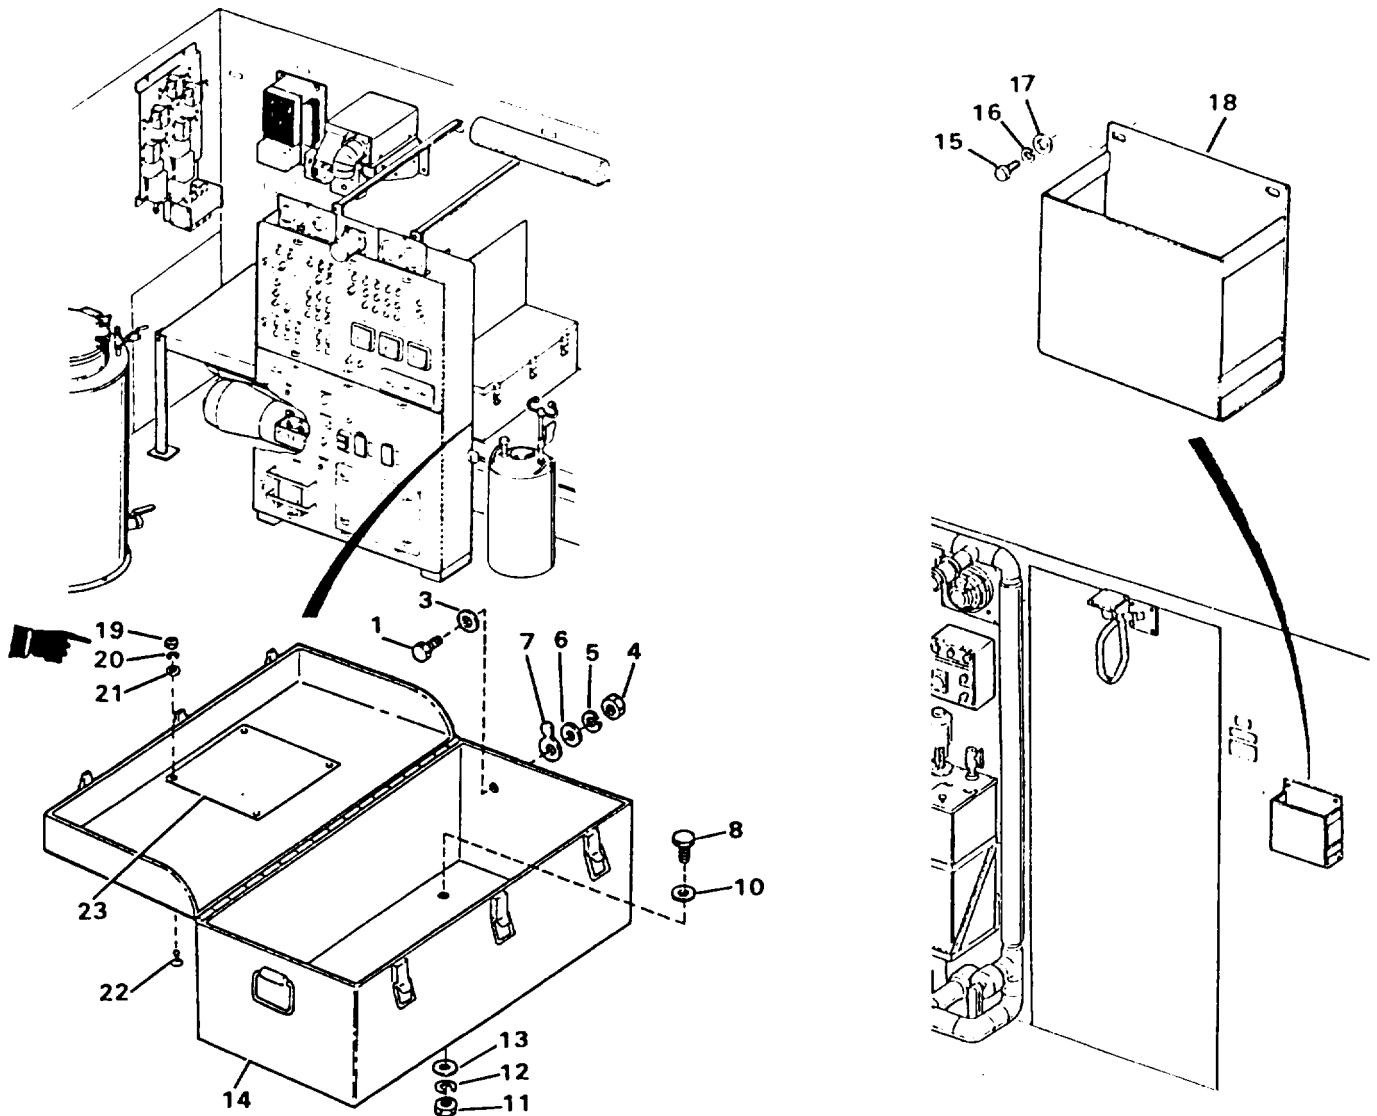

Figure 4-74. Storage Box and Rack
- a. Storage Box (Figure 4-74).
- (1) Open lid and prop open. Remove contents.
(2) Disconnect ground wire lug (7), which is attached to the accessory table by removing capscrew (1), (2) DELETED, washer (3), nut (4), lockwasher (5) and washer (6).
(3) Remove four capscrews (8), (9) DELETED, washers(10), nuts (11), lockwashers (12) and washers (13), Remove storage box (14).
b. Storage Rack (Figure 4-74). Remove twocapscrews (15), lockwashers (16) and washers (17) and lift storage rack (18) from wall.